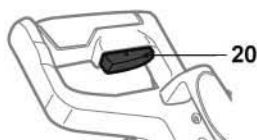

Fig. 15
1. Press the on/off switch (20) to switch the product on (Fig. 15).
2. Release the on/off switch (20) to switch the product off.